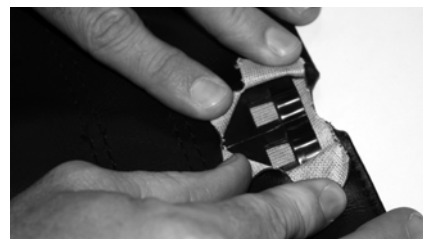

Figure 5
- ④ Make sure area is clear of broken pieces (see Fig. 5).